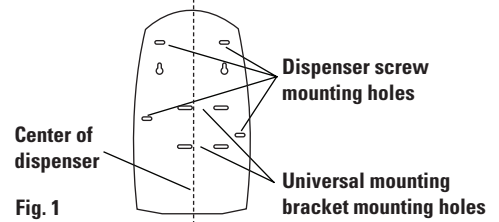

Fig. 1
2. Use the dispenser mounting template (**Figure 1**) provided to mark and drill holes. **NOTE: Bottom of dispenser must be a minimum of 10" above any surface, e.g. counter top, back splash, etc.**